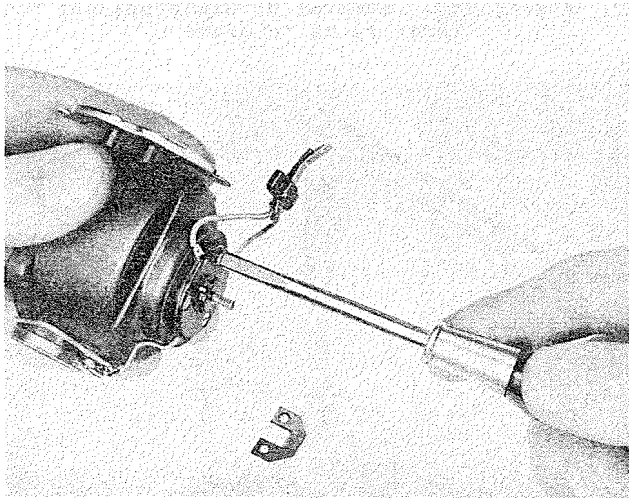

Figure 38
c. Remove the three flathead screws (figure 38) and lift off the bakelite ring.
d. Remove the three flathead machine screws (figure 38) and work the contact assemblies aside. (Refer to this section, paragraph 3.b.(2)(c) for the cleaning, inspection, testing, and repair of this subassembly.)